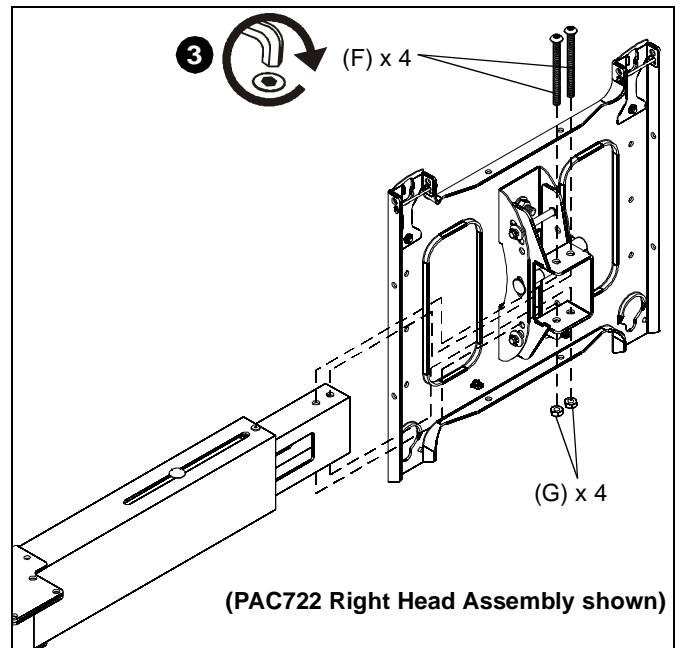

Figure 3
3. Attach faceplates (B and C) OR (D and E) to the extension assembly (A) using two 5/16-18 x 3-1/2" button head cap screws (F) and two 5/16" locking nuts (G) for each faceplate. (See Figure 3)